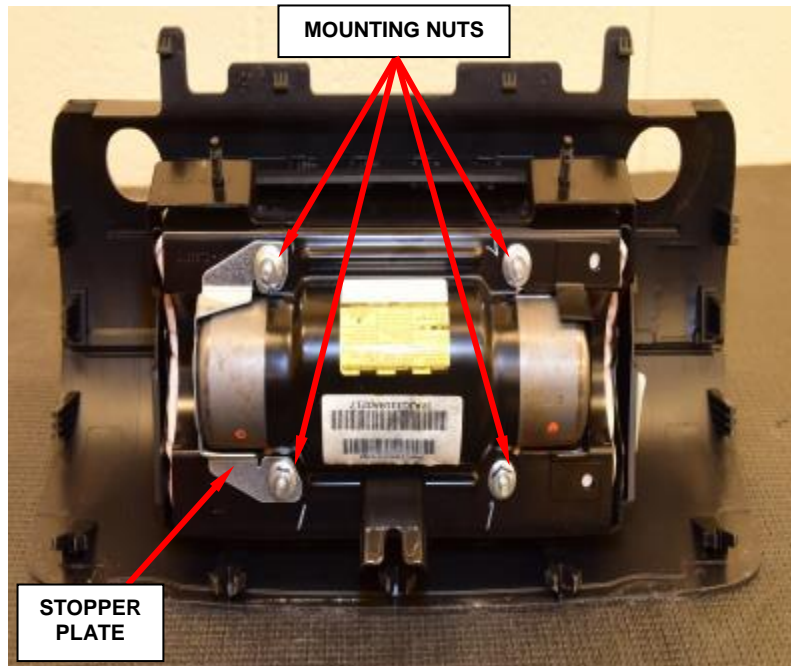

Figure 114 – Mounting Nuts
b. Remove and **discard** the four mounting nuts from the passenger airbag module (Figure 114).